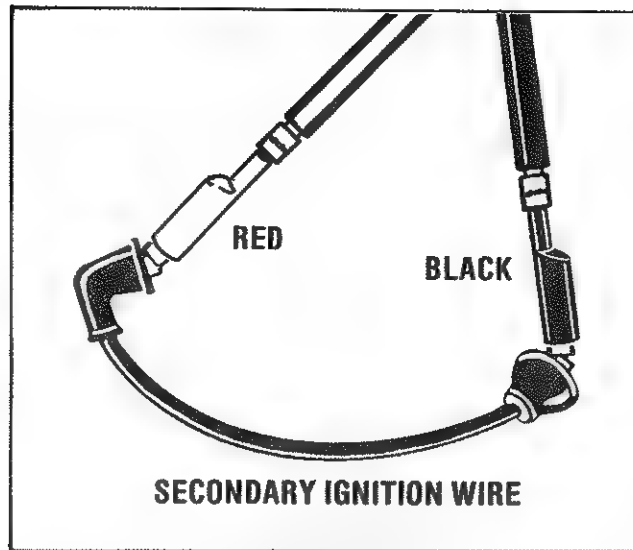

Figure 20. Secondary Ignition Wire Test Hookup.
5. Connect one test clip to each end of the spark plug wire, as shown in figure 20.